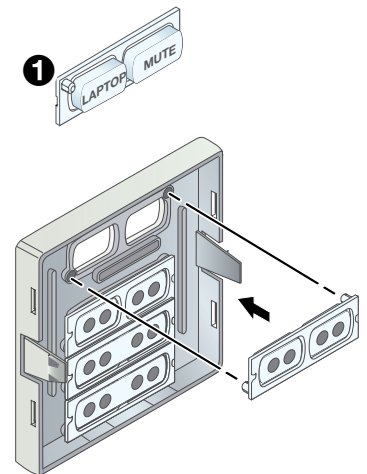

Figure 7. Replacing Buttons
2. On the back of the bezel, insert the replacement button or button pair into the appropriate slots. Ensure the text is in the correct orientation. Align the two pegs in the button membrane (see figure 7, ❶) with the holes located at opposite corners of the empty space in the faceplate.